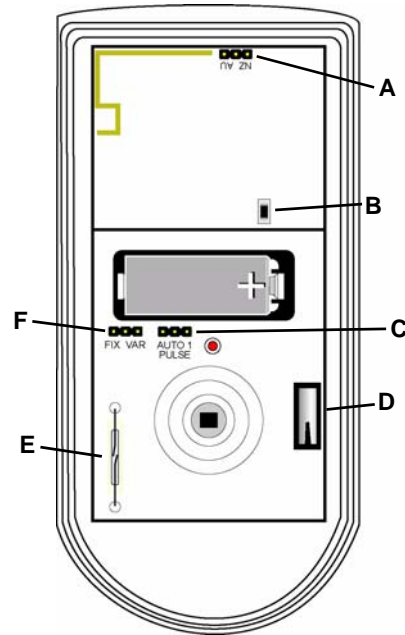

Figure 2 EN1260 components
1. Place a selection jumper on the appropriate frequency band selection pins (Fig. 2).